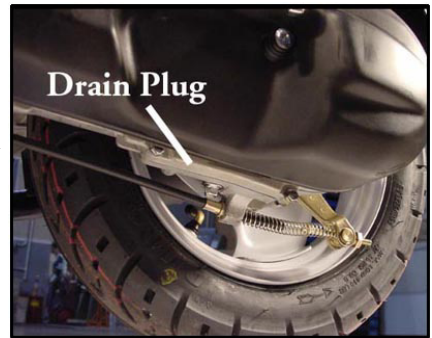

Fig 19
- 1) Find the rear drive drain plug at the rear of your scooter. It's hard to see, but it's located on the left side of the scooter near the rear wheel underneath the rear drive assembly. (See Fig 19 & 20)